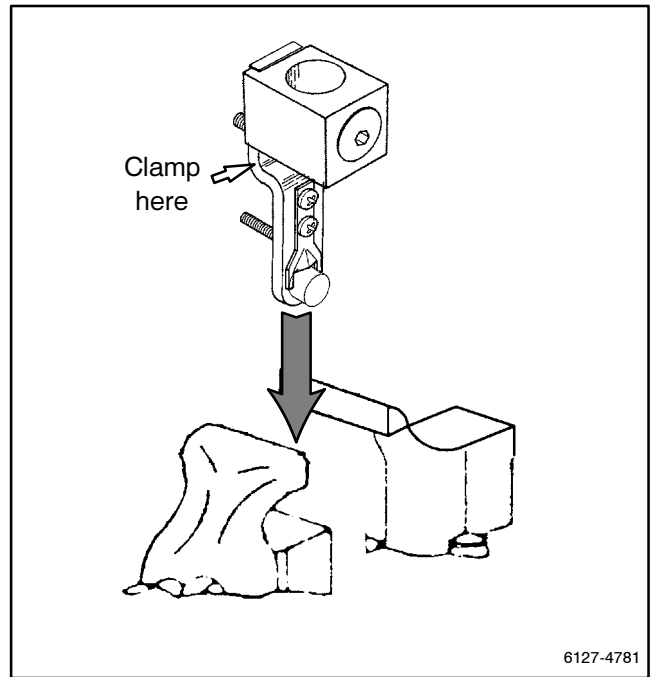

Figure 6-4 Stationary Contact Secured in a Vise to Remove and Install the Terminal Lug and Arc Runner
2. Remove the terminal lugs: Secure each contact plate in a vise. See Figure 6-4. Remove the terminal screws (from the back) by using a 9/16 in. socket wrench. Save the terminal lugs and screws for reuse.
- b. Carefully secure each new stationary contact plate in a vise. See Figure 6-4.